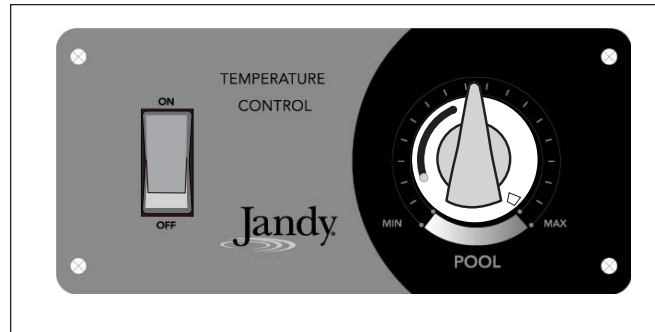

Figure 18. Temperature controls.
The temperature control (see Figure 18) is calibrated at the factory and covers a range from approximately 70°F to 104°F (21°C to 40°C). Use an accurate pool thermometer to determine the best water temperature for your uses.
The Lite2 temperature control panel has a rocker switch to turn the heater on and off. It also has a rotary dial to set the desired thermostat setting (see Figure 18).
1. Set the control panel rocker switch to the OFF position (see Figure 18).
2. Set the rocker switch on the temperature control panel (see Figure 18) to OFF.